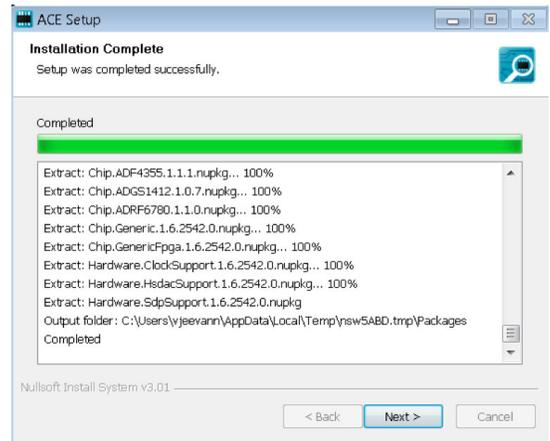

Figure 15. Installation Complete
- When the installation is complete, click **Next >** (see Figure 15), and then click **Finish** to complete the installation process.